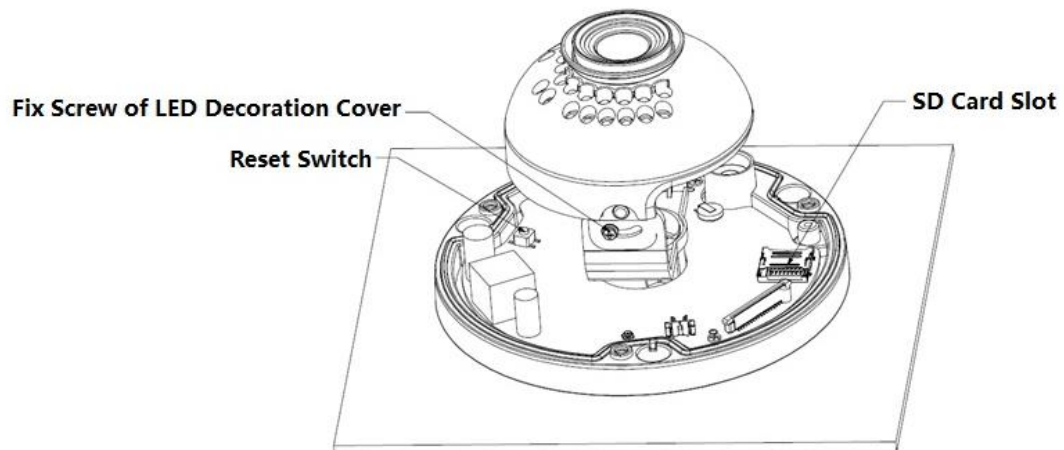
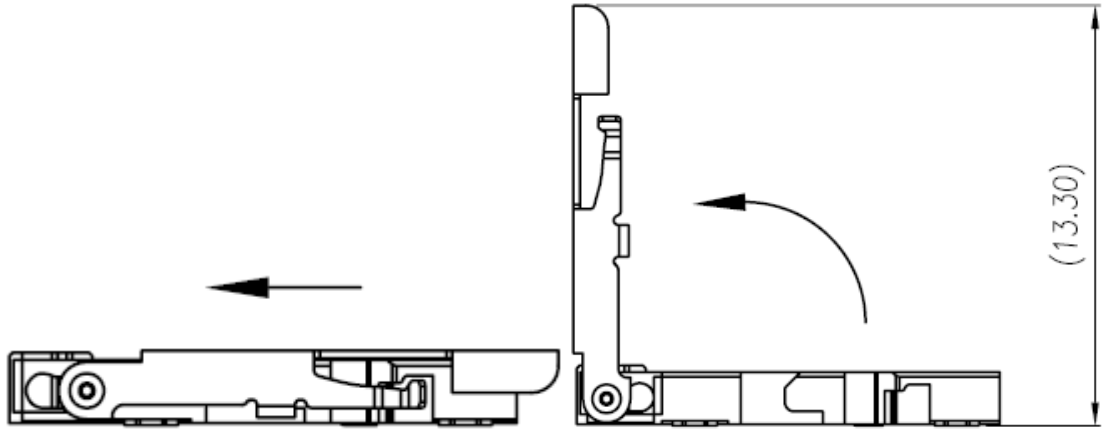

Figure 2-3
Figure 2-4 Micro SD Card installation illustration 1
- Long press the “Reset button” shown in Figure 2-3 for 10 seconds when the device is power on if the device needs to restore to factory setting.
- If the device needs to use WPS function, please short press the “Reset button” shown in Figure 2-3 for 1~2 seconds when the device is power on, press the WPS button of the router, generally the device can connect to corresponding router within 1 minute (only supported by some models).
Find the Micro SD Card slot in figure 2-3; open the Micro SD Card slot according to the direction in figure 2-4.